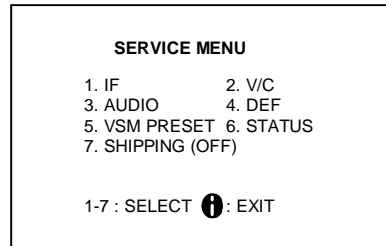
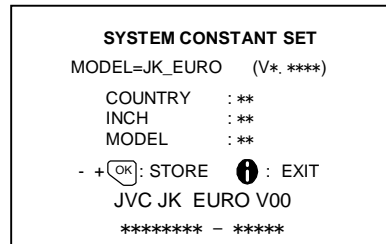

Fig.1
Fig.2
(1) Power off	Switch the power off and unplug the power cord from the wall outlet.
(2) Replace ICs.	Be sure to use memory ICs written with the initial data values.
(3) Power on	Plug the power cord into the wall outlet and switch the power on.
(4) Check and set SYSTEM CONSTANT SET:	<p>* It must not adjust without signal.</p> <ol style="list-style-type: none"> 1) Press the INFORMATION key and the MUTING key of the REMOTE CONTROL UNIT simultaneously. 2) The SERVICE MENU screen of Fig. 1 will be displayed. 3) While the SERVICE MENU is displayed, press the INFORMATION key and MUTING key simultaneously, and the SYSTEM CONSTANT SET screen of Fig. 2 will be displayed. 4) Check the setting values of the SYSTEM CONSTANT SET of Table 1. If the value is different, select the setting item with the FUNCTION UP/DOWN key, and set the correct value with the FUNCTION +/- key. 5) Press the MENU key to memorize the setting value. 6) Press the INFORMATION key twice, and return to the normal screen.
(5) Setting of receive channels	<p>Set the receive channel. For setting, refer to the OPERATING INSTRUCTIONS.</p>
(6) User settings	<p>Check the user setting values of Table 2, and if setting value is different, set the correct value. For setting, refer to the OPERATING INSTRUCTIONS.</p>
(7) Setting of SERVICE MENU	<p>Verify the setting items of the SERVICE MENU of Table 3, and reset where necessary. For setting, refer to the SERVICE ADJUSTMENTS.</p>